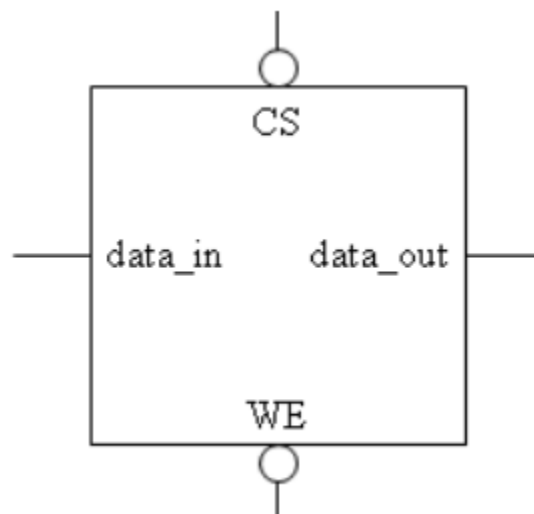

Figure 1. SRAM cell: block diagram symbol
The block diagram symbol of a primary SRAM cell is shown in Figure 1. It has active-low inputs for Cell Select (CS) and Write Enable (WE). Note the absence of a clock signal. Storage registers and register files are implemented by flip-flops. Still, the storage devices of RAMs, including SRAM and DRAM, are implemented as transparent latches, which support asynchronous storage and retrieval of data and minimize the time a RAM requires service from a shared bus.